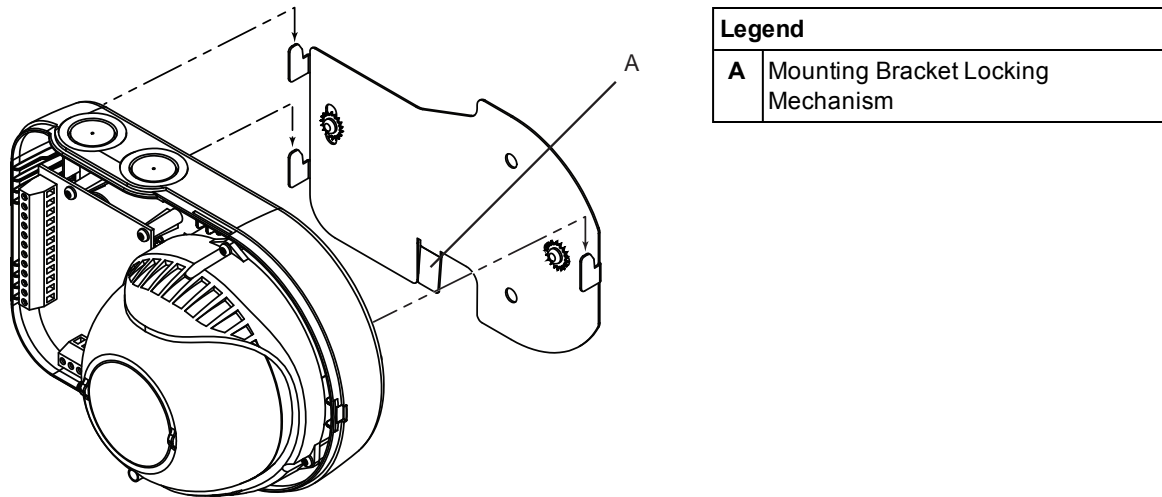

Figure 4-4: Mounting the rear assembly of the unit to the Mounting Bracket
- To remove the unit from the Mounting Bracket, open the front cover and with a screwdriver push the lip shown in Figure 4-4 backwards to then slide the unit up to detach from the Mounting Bracket.